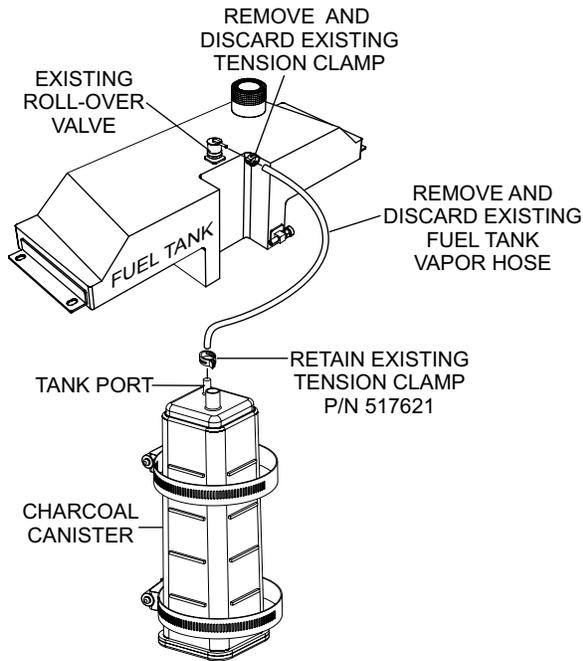

Figure 6. Tank Hose Disconnection
1. Remove and discard existing tension clamp (Figure 6) from the roll-over valve port.